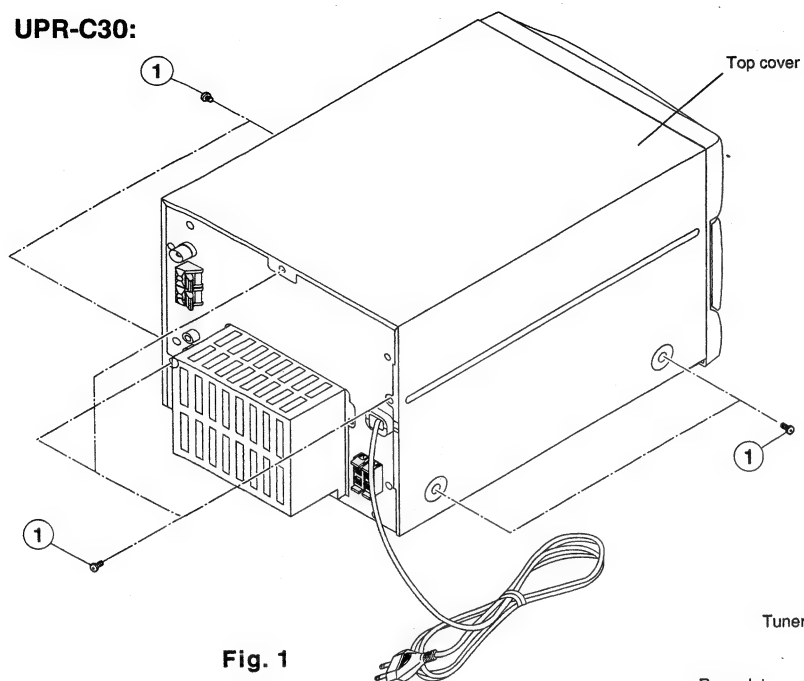

Fig. 1
1. **Removal of the Top Cover (Fig. 1)**